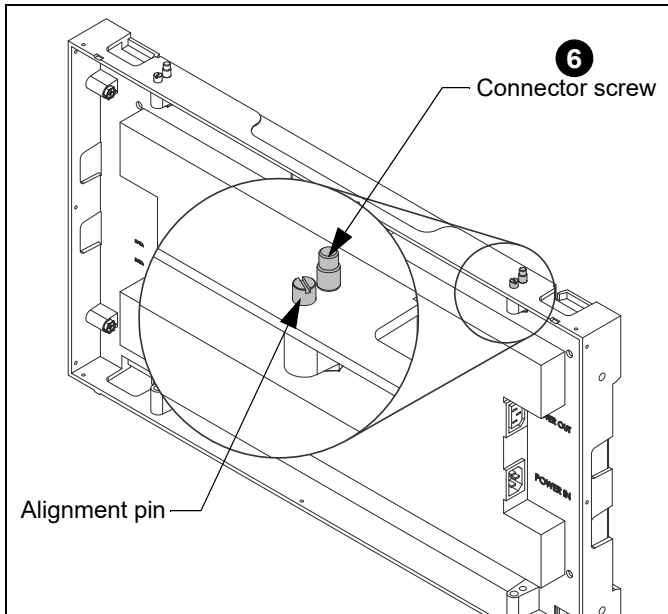

Figure 26
6. While installing the cabinets, occasionally check to be sure the connector screws fit and easily slide into place. (See Figure 26)
**Just a tip** - When installing the cabinets do not force them together. If the alignment pins (See Figure 26) are difficult to insert, the plumb may need to be adjusted or there may be interference somewhere in the installation. Adjust as necessary.